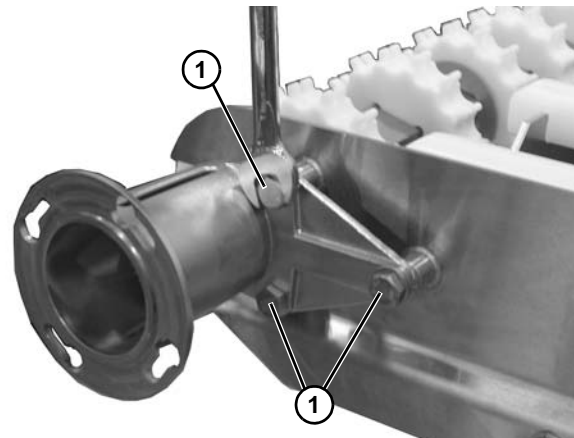

Figure 57
1. Loosen the four screws (Figure 57, item 1). Rotate and remove the gearmotor. (For further detailed instructions, refer to drive package manual 851-947.)
3. Remove the three screws (Figure 57, item 1) on both sides of the conveyor.